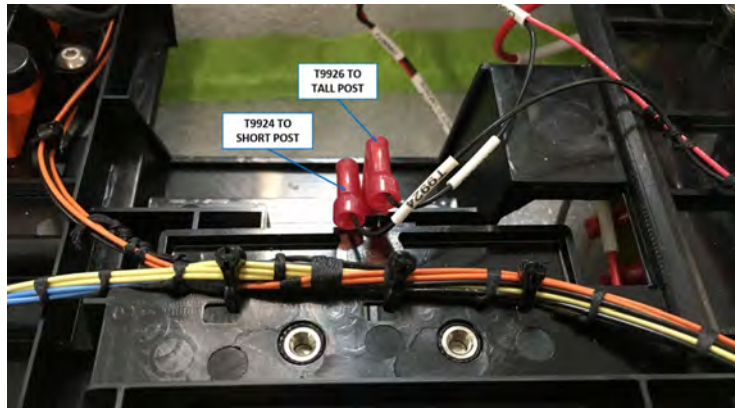

FIGURE 7-17
2. Connect wire labeled T9924 to the short post of the switch and T9926 to the tall post of the switch as shown in Figure 7-17.